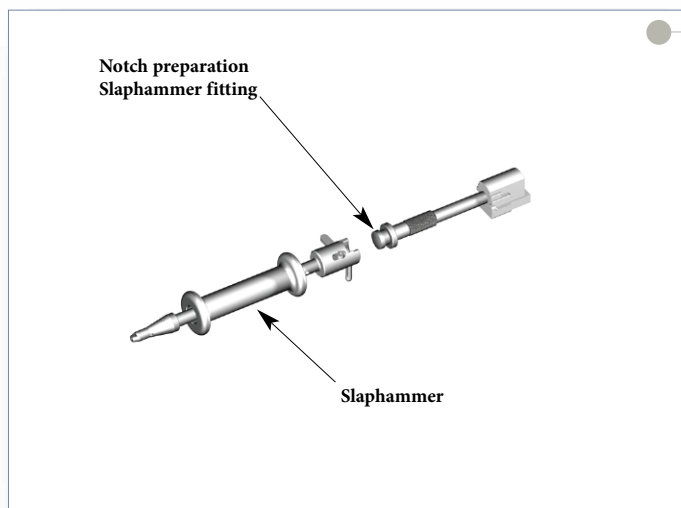

Figure 33
- ▶ Remove the Punch from the tracks with a Slaphammer if necessary (Figure 33).